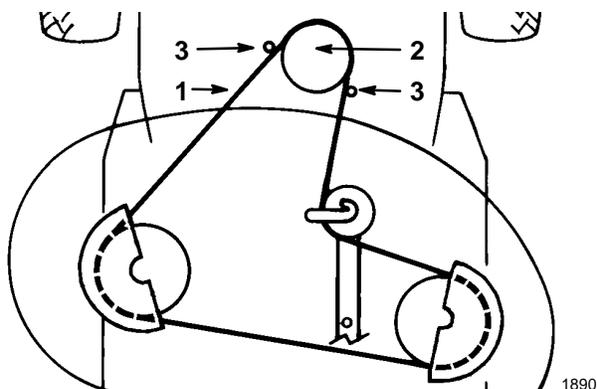

Figure 43
14. Remove the mower belt from the lower engine pulley (Fig. 43). If you are careful, you can flex the belt guide(s) just far enough away from the pulley to remove the belt. If it is too difficult to remove the belt, loosen the bolts and nuts securing the belt guides.
4. Install mower belt onto the lower engine pulley (Fig. 43). If you are careful, you can flex the belt guide(s) just far enough away from the pulley to